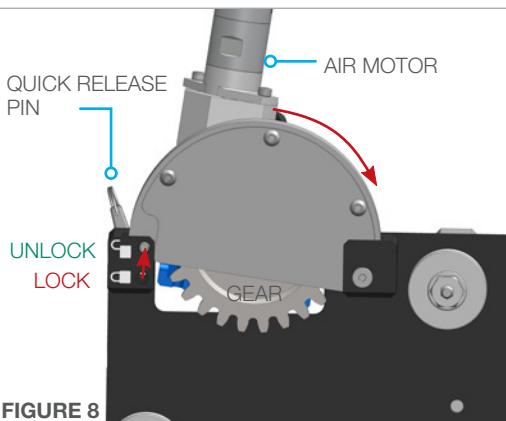

FIGURE 8
- Remove the **Quick Release Pin** from the **locked** position, pull back on the air motor to lift the gear, and insert the **Quick Release Pin** into the **unlocked** position. This will allow the **Vertical Drive Carriage** to slide onto the rail without pneumatic power. Center the carriage on the vertical rail, pull out the **Quick Release Pin**, let the gear drop into place and verify the gear is engaging the slotted rail correctly. Replace the **Quick Release Pin** into the **locked** position. **(Figures 8 & 9)**